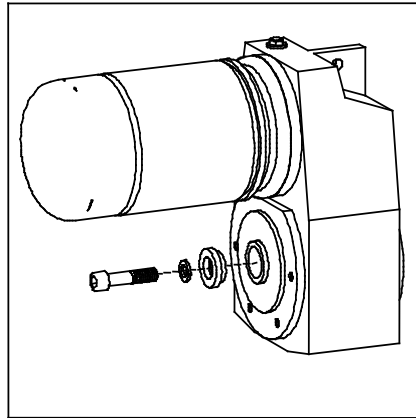

Figure 5.4a - Remove the Locking Bolt, Spring Washer and Stepped Spacer
10. Unscrew the locking bolt, spring washer and stepped spacer from the drive shaft, located at the rear of the gearbox (see fig. 5.4a).